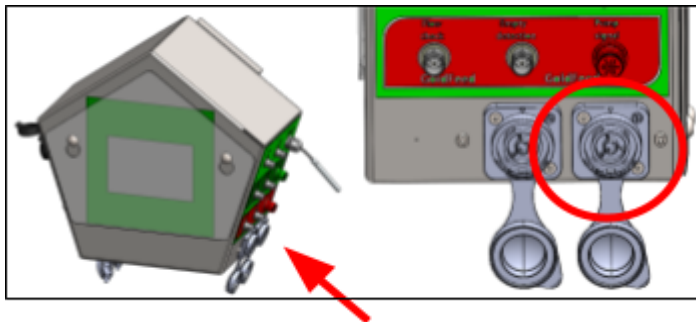

Figure 38.
3. Connect the black connector to the correct location. See Figure 38.